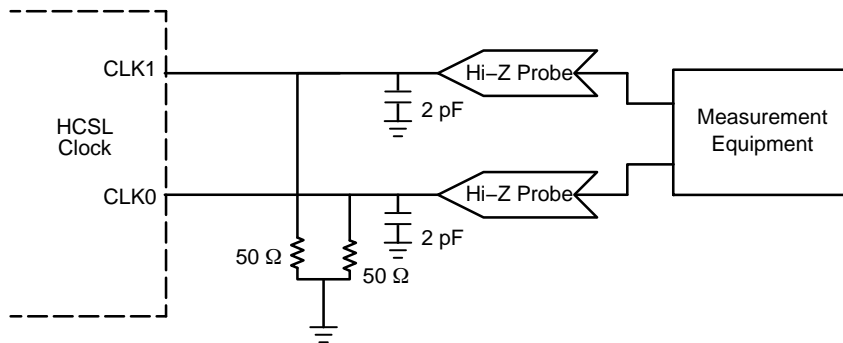

Figure 8. HCSL Parameter Measurement
8. Measurement taken with outputs terminated with  $R_S = 0\ \Omega$ ,  $R_L = 50\ \Omega$ , with test load capacitance of 2 pF. See Figure 8. Guaranteed by characterization.